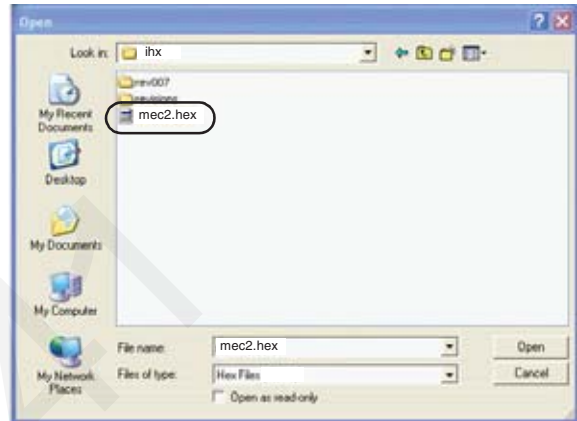

FIGURE 16
9. A screen will drop down called **Open** as shown in Figure 16.
11. Locate and click **mec2.HEX** icon to select file (see Figure 16). The hex file will now download the program. The screen will display **Process Complete/Timed Out** when files are fully loaded and file closes automatically.